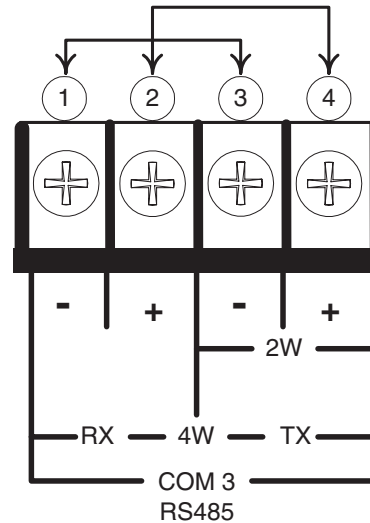

Figure 6-6 RS-485 4-Wire Testing
- On the rear of the unit, connect a jumper from terminal 1 to terminal 3 and from terminal 2 to terminal 4. See Figure 6-6 for diagram.